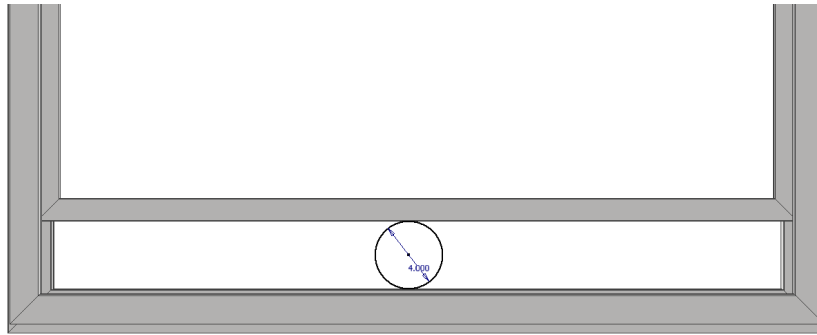

Figure 5
7. Open the sash until it is stopped by the window opening control devices. Check that the clear opening is less than 4 inches by verifying that a 4-inch diameter rigid sphere cannot pass through the lowest opening in the window as depicted in Figure 5.